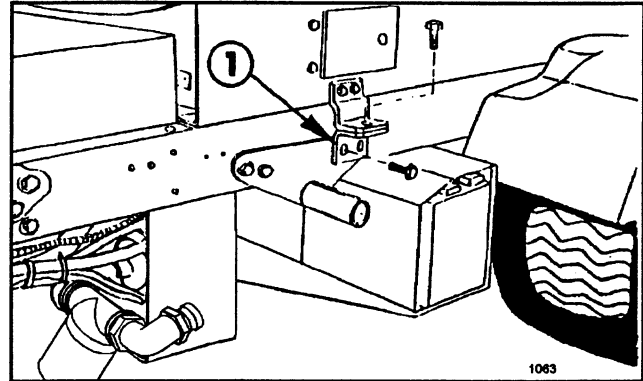

FIG. 10
12. Locate and remove the (2) 1/2" bolts on each side of the vehicle frame and install the attachment mounting bracket using the bolts earlier removed. Re-tighten the nuts and bolts securely (FIG. 10).
1. Mount the radiator cover to the vehicle frame using the (4) 3/8" x 1" hex hd cap screws and (4) flat washers.
2. Secure the tank skid to the vehicle frame by installing the (2) 1/2" bolts, (4) washers, and (2) lock nuts through the attachment mounting brackets (FIG. 10). Tighten fasteners securely.